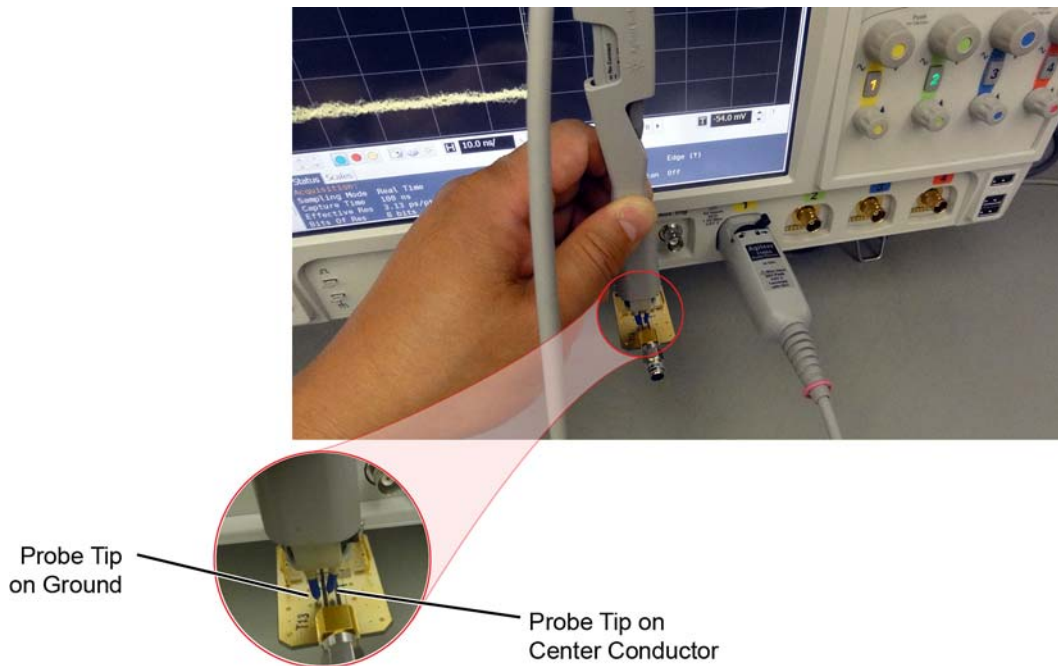

Figure 69 Connecting the Probe
- 1 As shown in **Figure 69** on page 98, connect BNC (male) to SMA (male) adapter to the deskew fixture on the connector closest to the yellow pincher.